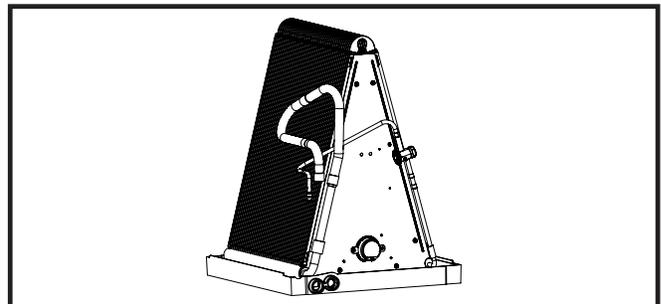

Figure 3. Suction and Liquid Line Locations
- Remove the cap (Figure 3) from the end of the liquid line.